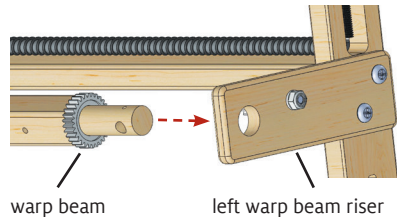

FIGURE 9: INSERT WARP BEAM
9. Insert a cloth/warp beam (now the warp beam) through the large hole in the left warp beam riser (Figure 9). The ratchet gear should sit against the riser so the ratchet dog can engage.